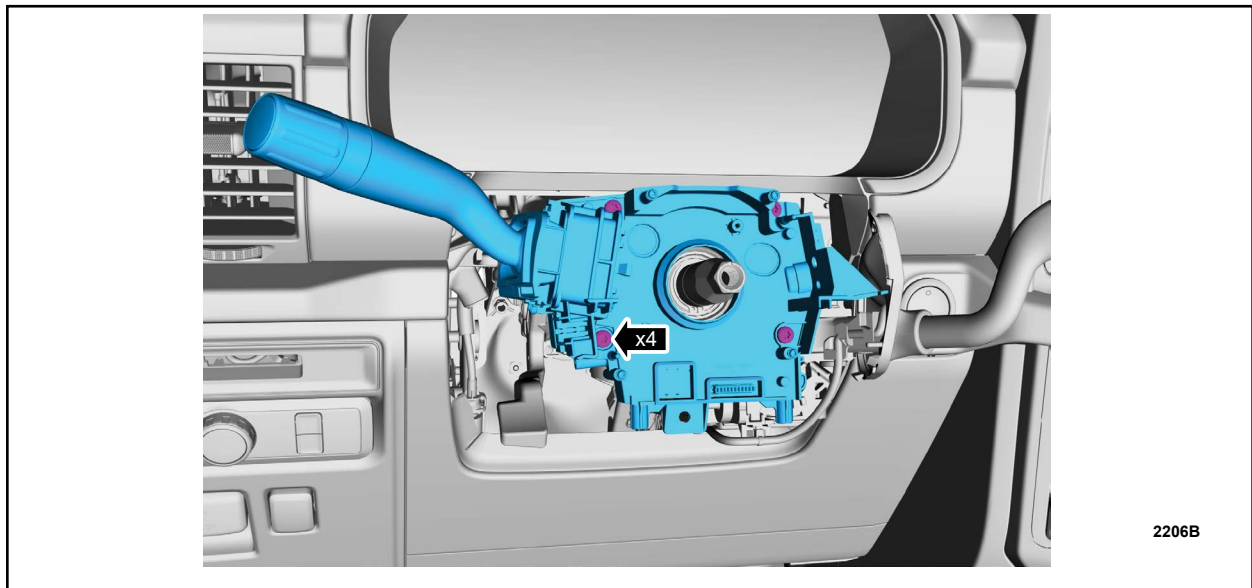

FIGURE 7
7. Remove the retainers and the SCCM. See Figure 7.